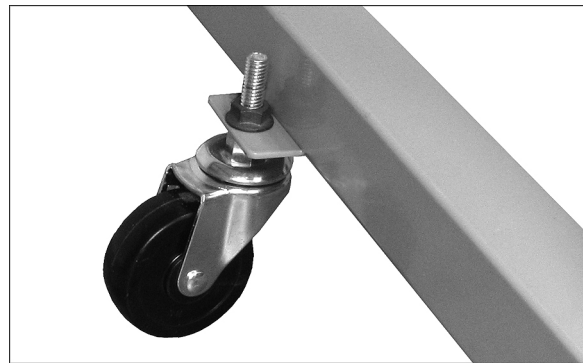

Figure 11
13. Install the caster on the cross brace flange with two flanged hex nuts. See Figure 11.